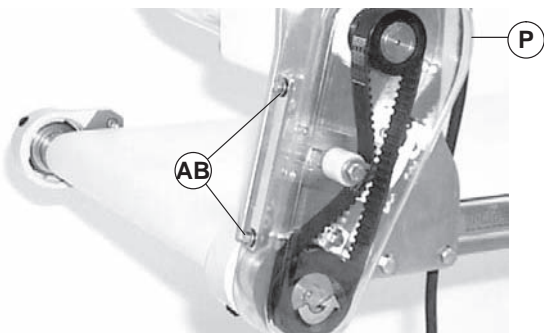

Figure 20
1. Loosen four (4) screws (Figure 20, item AB) and remove cover (P).
Do not over-tighten screws (Figure 20, item AB).
6. Install cover (Figure 20, item P) and tighten four screws (AB) to 35 in-lb (4 Nm).